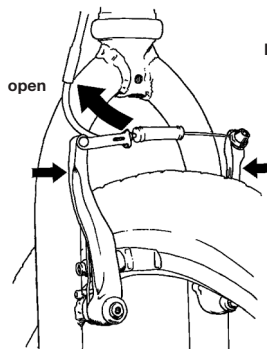

Fig. 15
- 3 Some bicycle brakes, such as disc brakes (fig. 14) and V brakes (fig. 15), are extremely powerful. Take extra care in becoming familiar with these brakes and exercise particular care when using them.**